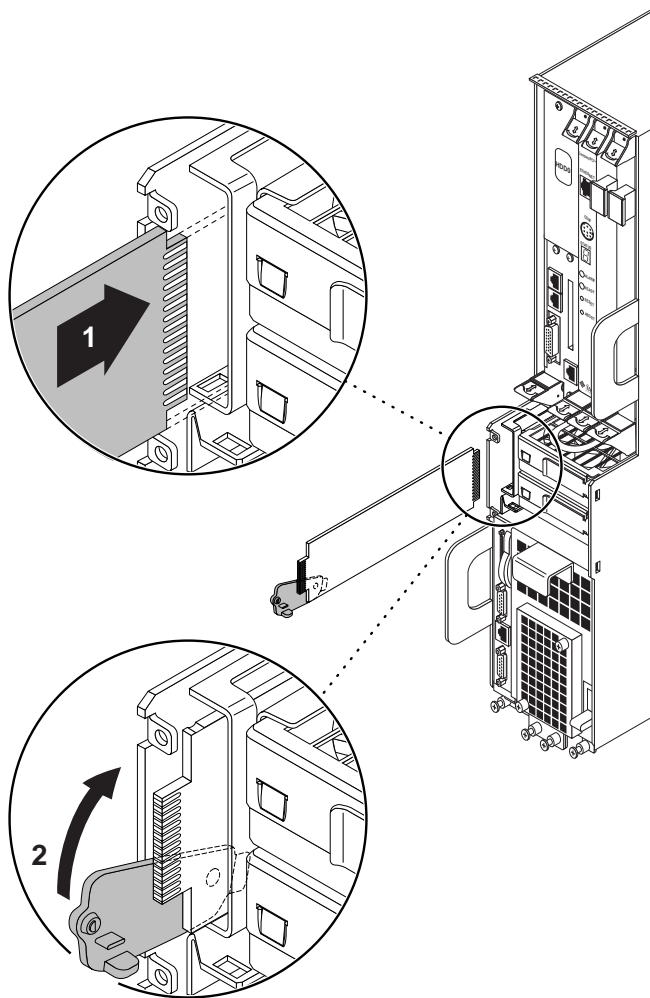

FIGURE 8-9 Inserting a System Controller Board
The wide connector should be inserted first, as shown in FIGURE 8-9.
4. Slide the board into the slot (FIGURE 8-9).